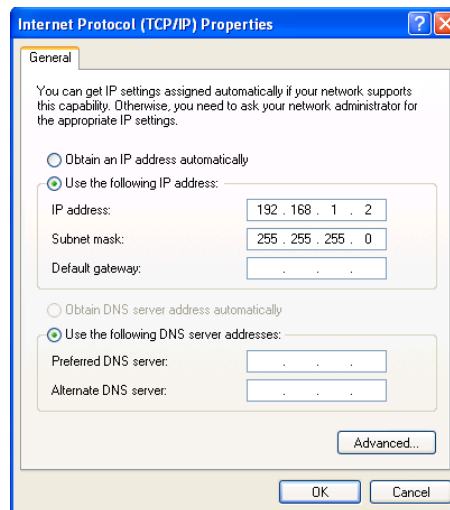

Figure 2.3f—TCP/IP Properties
*Note: Before making any changes to the network settings (Figure 2.3f), write down the current settings so that they can be restored once the WebRelay-Dual™ is configured.*